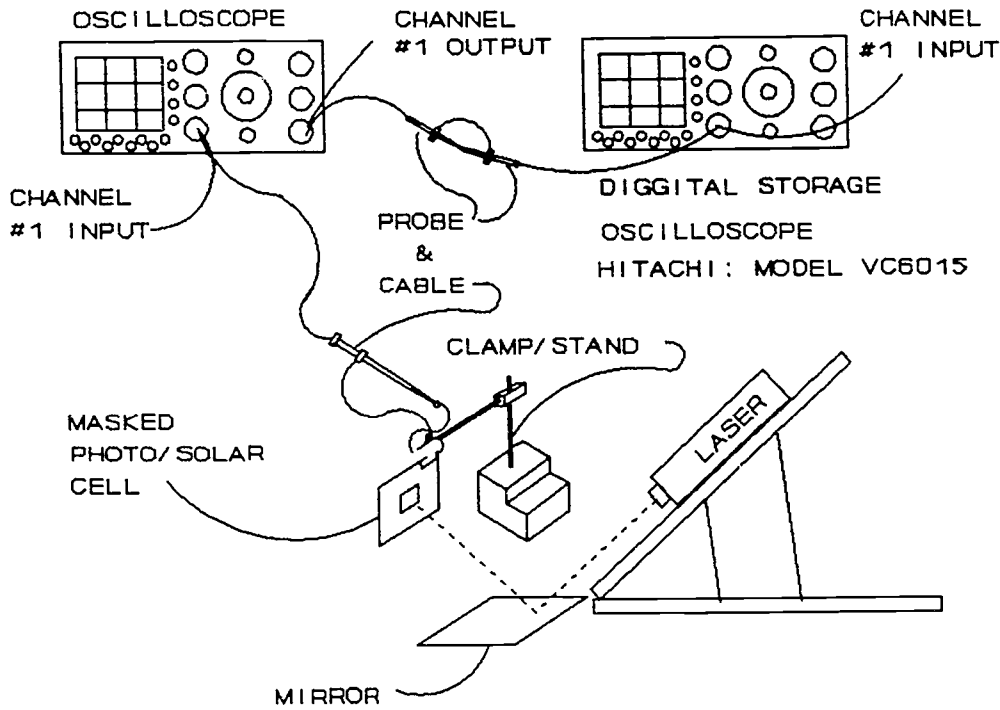

Figure C-2-9
6. Hook up the digital storage oscilloscope to the first one as shown in Figure C-2-9, "Oscilloscope Hookup."